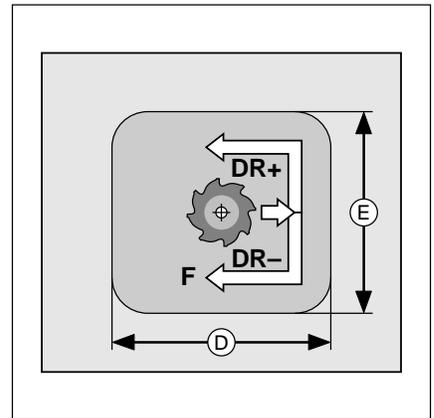

Fig. 8.9: Side lengths of the pocket
- the tool subsequently follows the programmed path at the specified feed rate (see Fig. 8.9)